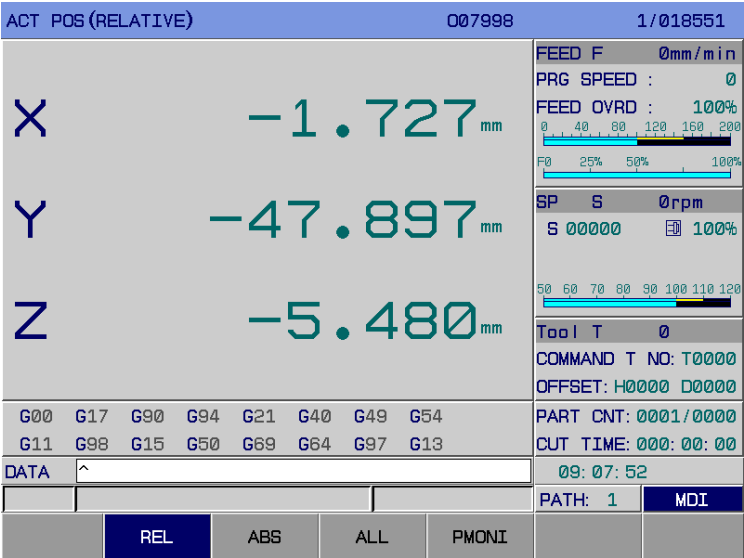

Fig. 3-1-2-1
The programming speed, actual speed, feedrate and rapid override, G codes, tool offset, part number, cut time, spindle override, spindle speed, tools etc. can be displayed on the subpages 【REL】 and 【ABS】 of page <POSITION> (see Fig.3-1-2-1).
- 1) Enter any page that displays the relative coordinates (Fig. 3-1-2-1);
- 2) **Clearing operation:** Press and hold key "X" till X in the page flickers, then press key  to clear the relative coordinate in X axis; (Fig. 3-1-2-2)